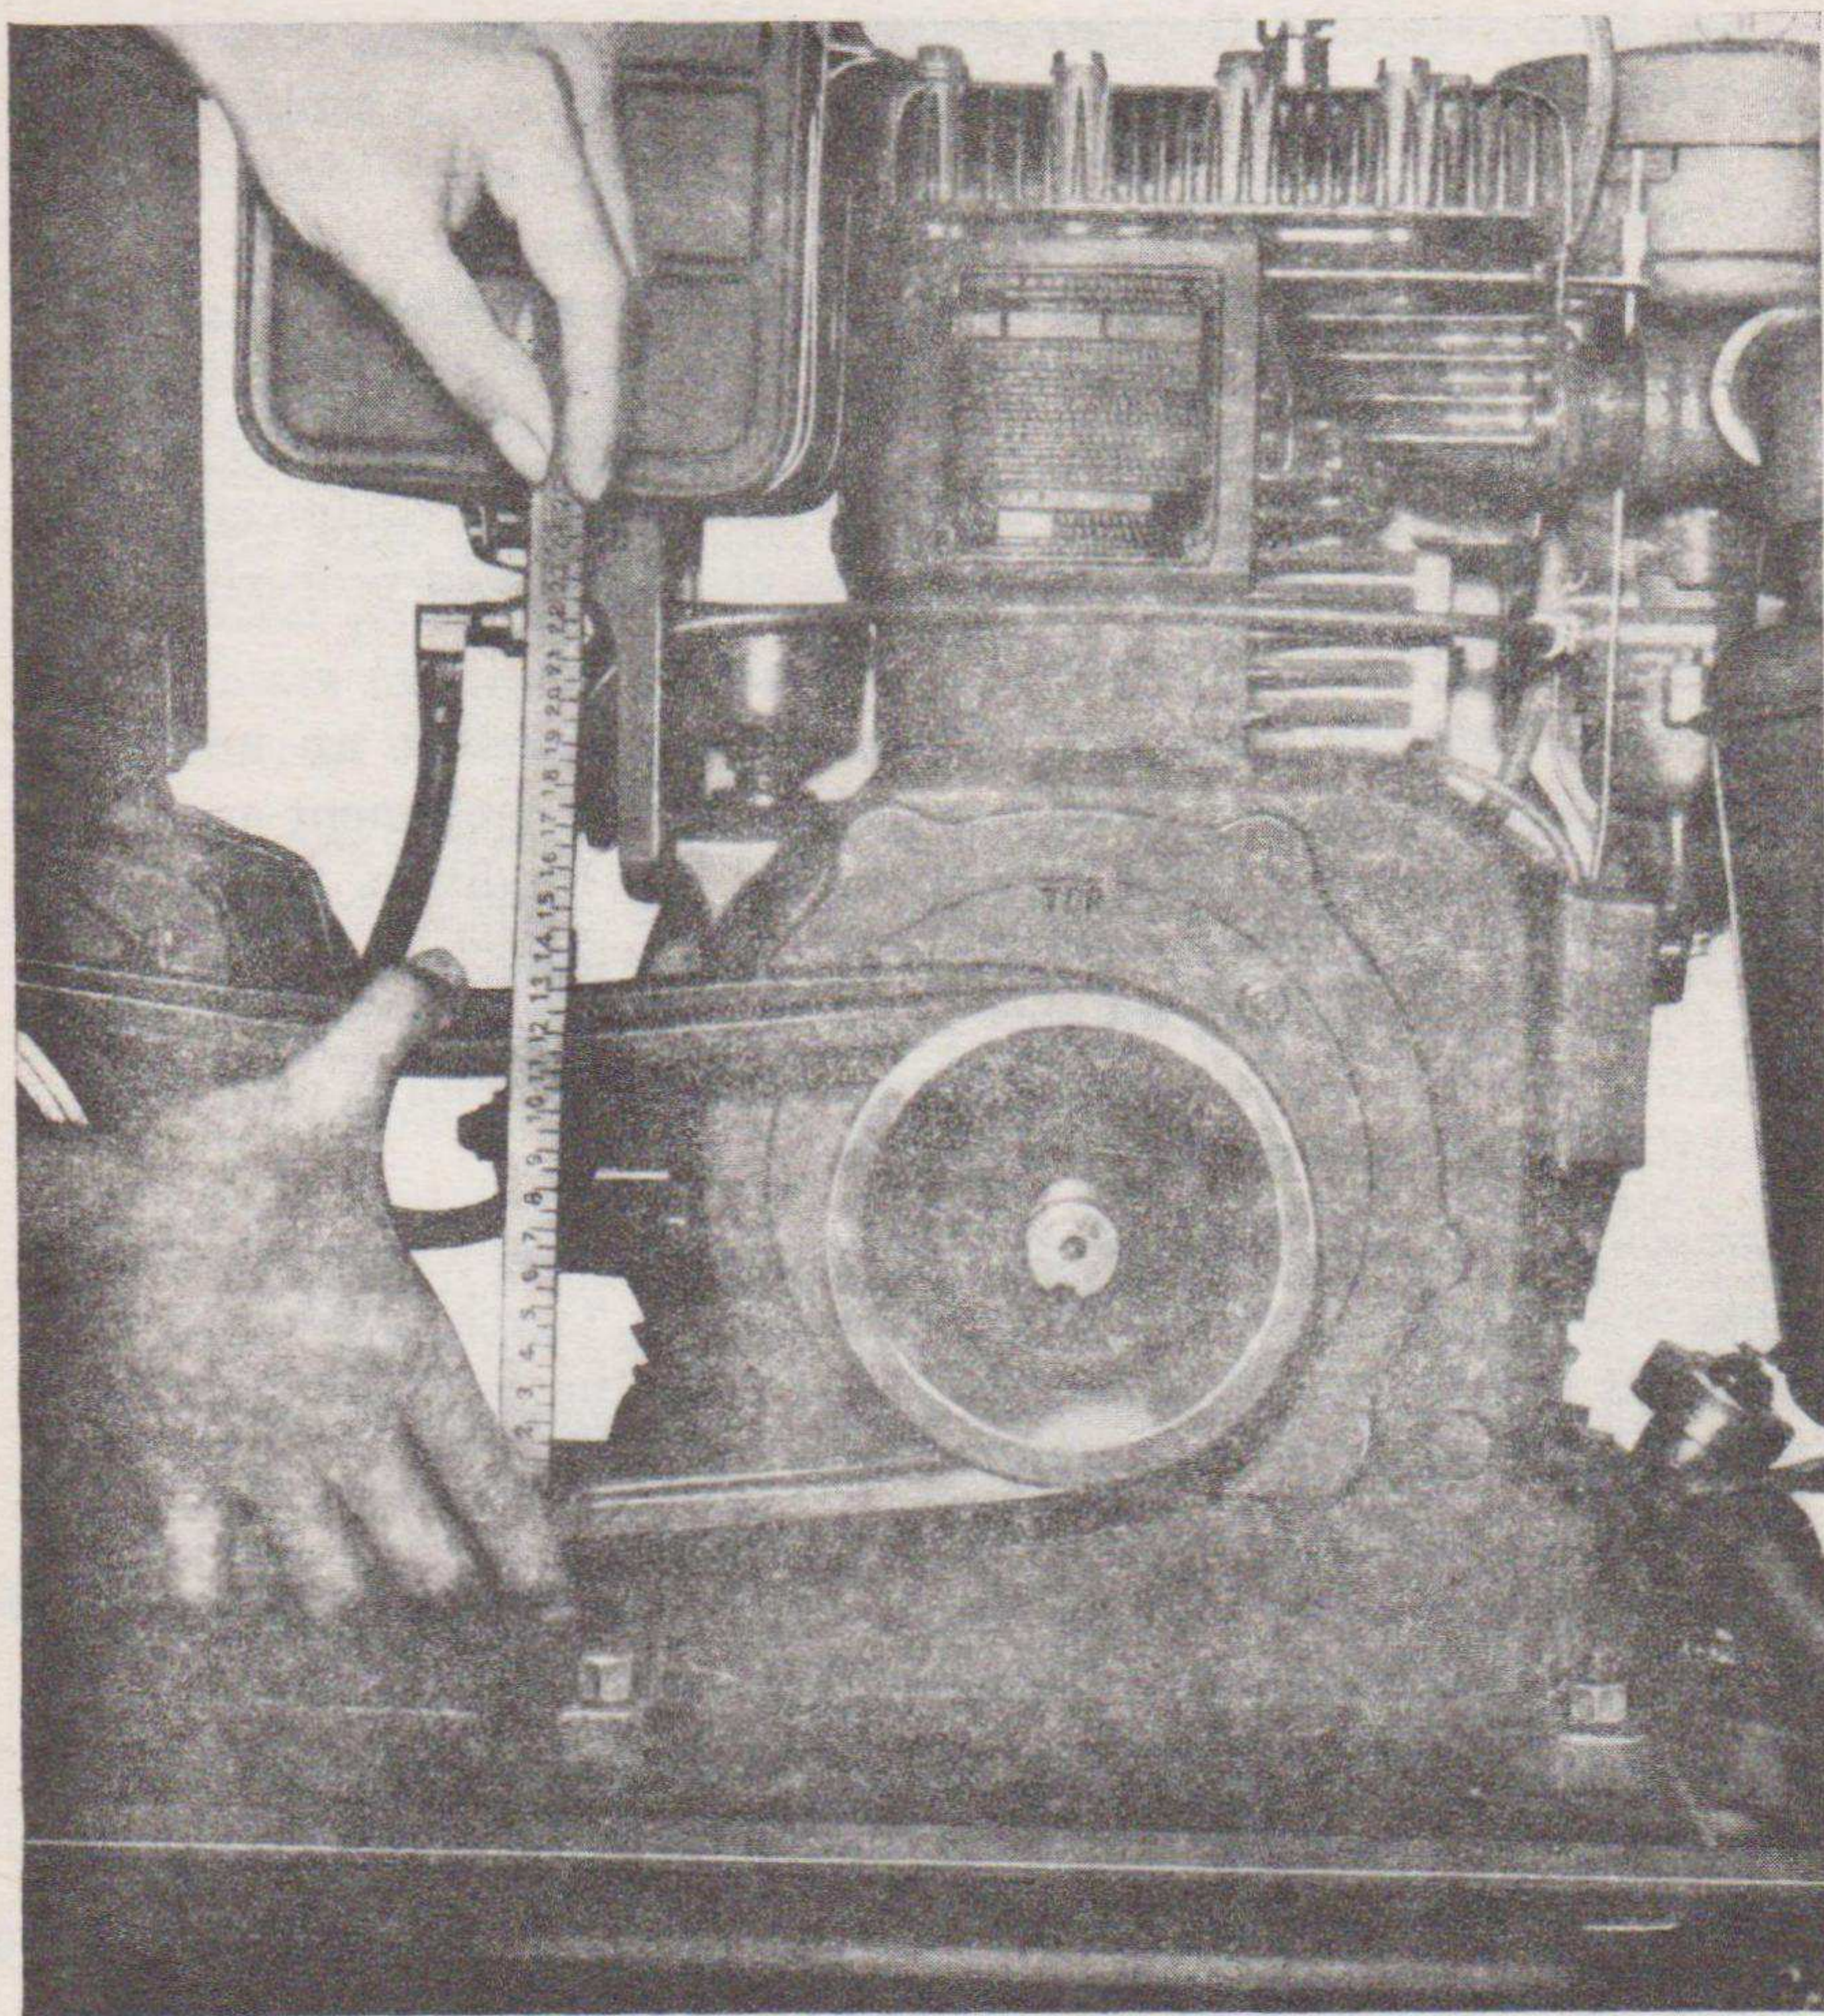

Figure 12. Checking generator drive belt adjustment.
b. *Fuel and Lubricant.* Fill the fuel tank. Note whether an unusual amount of fuel has been used during operation. If the equipment appears to be using an excessive amount of fuel, report this condition. Check the level of the engine oil in the engine crankcase and replenish it. If the unit has been operated a sufficient number of hours (64 operating hours) since the crankcase was last drained, drain the crankcase and refill it with fresh engine oil (OE) of the correct seasonal grade.
c. *Accessories and Belts.* Remove the belt guard and inspect the condition and adjustment of the generator drive belts (fig. 12). Check to see that all accessories are in good condition and that their mounting is secure. See that the cooling-air intake is free from obstructions.
h. *Clean.* Thoroughly clean the entire exterior of the equipment. Use solvent (SD) where necessary, but avoid getting any of the cleaning solvent into the fuel tank, crankcase, air cleaner, breather, and the interior of the generator.